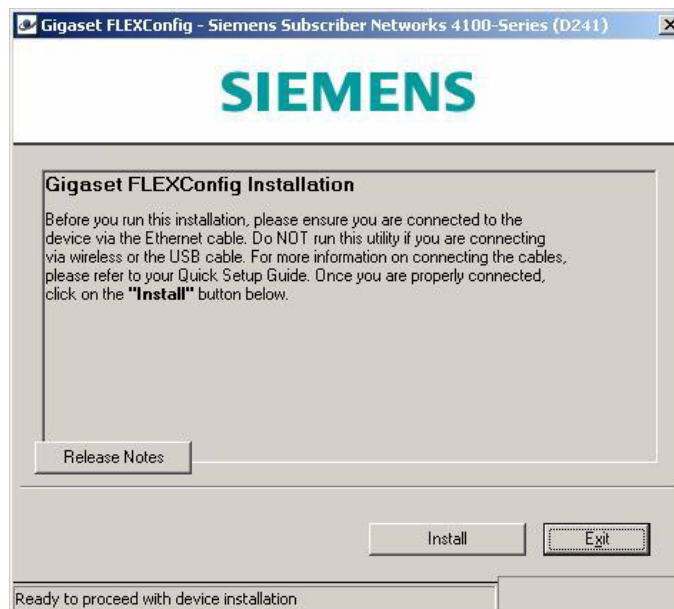

Figure 106: Ready message
4. When the system has located the device, it displays the **Ready to proceed with device installation** message as shown in Figure 106.